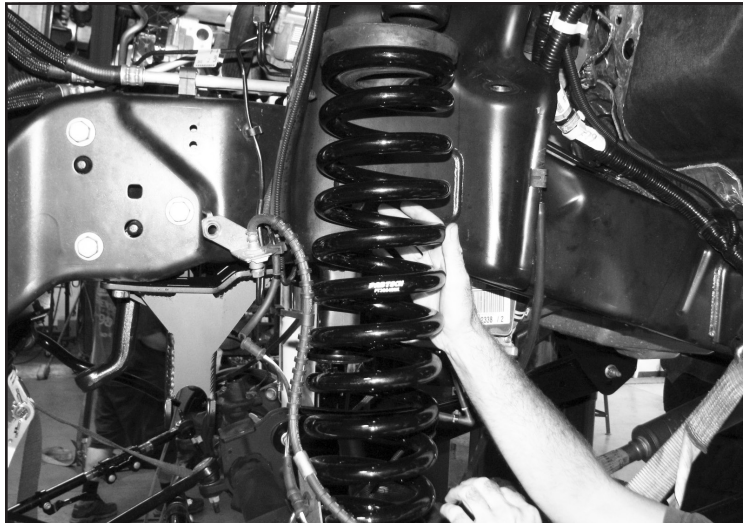

FIGURE 15 - STEP 20
20. Install FT30123BK (Coil Spring) using the factory upper isolator. **SEE FIGURE 15**